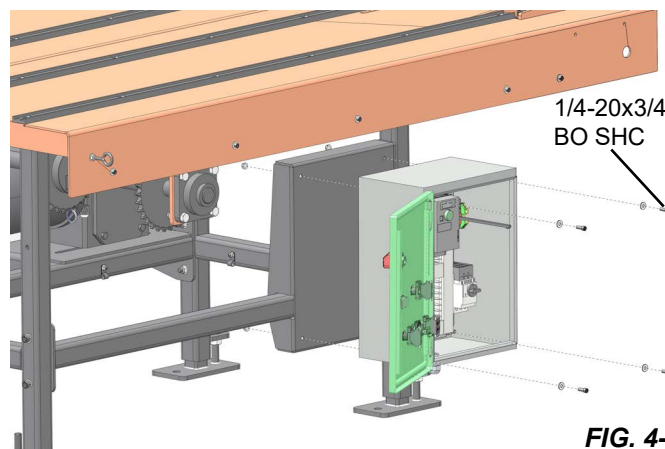

FIG. 4-9
1. Mount the electrical box to the frame by the 4 bolts at the inside corners of the box as shown in FIG. 4-9.